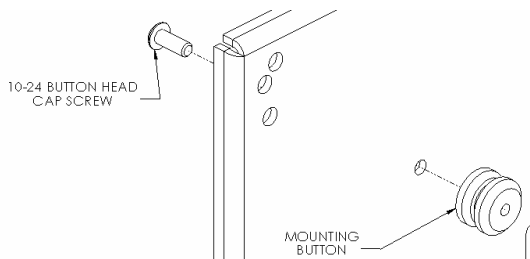
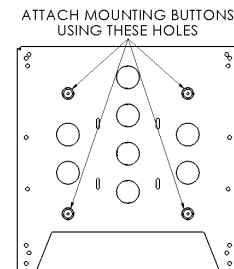

Figure 2
Figure 3
- Chief Q-latch Button Installation (Used with MSR, MTR, MWH, MWR, MCS and MCD mounts):** Using a 10-24 button head cap screw inserted from back side of bracket, secure mounting button, with chamfered hole of mounting button (larger surface) facing bracket, bracket (four places) (see Figure 2 & Figure3).